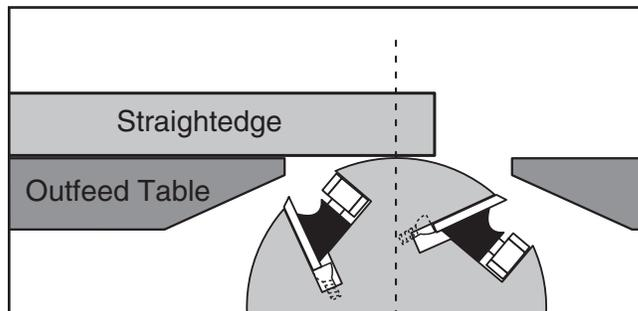

Figure 72. Adjusting outfeed table even with cutterhead body (knife-style cutterhead shown).
1. Place straightedge on outfeed table so it hangs over cutterhead, and lower outfeed table until straightedge just touches cutterhead *body*, as shown in **Figure 72**.